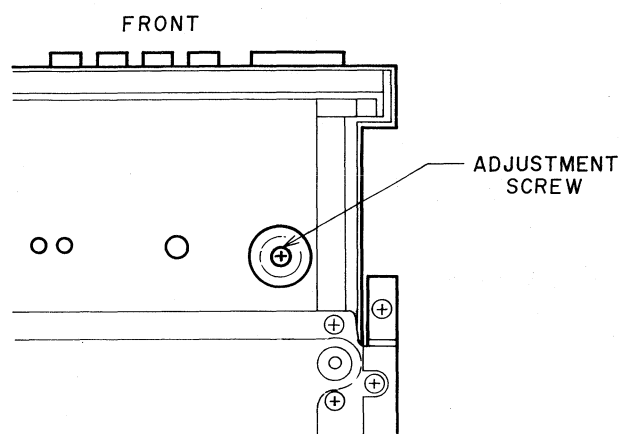

Fig. 5-2 Adjustment Point
Adjust the Adjustment screw which located bottom (refer to Fig. 5-2) so that the space between Decoration (R) and Cabinet is about 2mm.